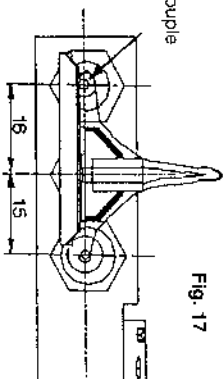
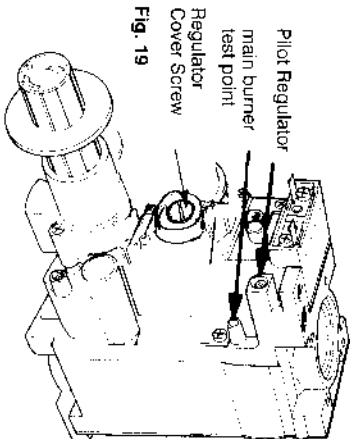

Fig. 17
Fig. 19
- 6.5.5** The pilot flame should remain alight and envelope the thermocouple (see fig. 17). If it goes out, wait 3 minutes and repeat from 6.5.4
- 6.5.7** Refer to fig. 17 and check that the pilot flame is correct. If it is necessary to adjust the flame refer to cl. 5.7.2 for access instructions. Fig. 19 shows the location of the adjustment screw. Turning clockwise decreases flame and vice versa.
- 6.7.3** Locate the main burner pressure test point (Fig 19) and slacken the screw half a turn in an anti clockwise direction. Attach a suitable pressure gauge. Turn on the boiler for central heating.
- 6.7.4** The pressure reading for maximum output should be 10.6 mbar/4.26in wg (plus or minus 1.0mbar/0.42in wg). If the pressure is wrong or if it is required lower, it should be adjusted by removing regulator cover screw (fig 19) and adjust regulating screw underneath. Once this pressure has been fixed it should be indelibly recorded on the data badge. This is to ensure that the burner can be reset when any service operation involves alteration of burner settings.
8.5.2 Remove roomsealed front cover plate by releasing six screws (fig 19) and easing cover off. The screws are not captive. Inspect gasket for damage. If damaged, replace.